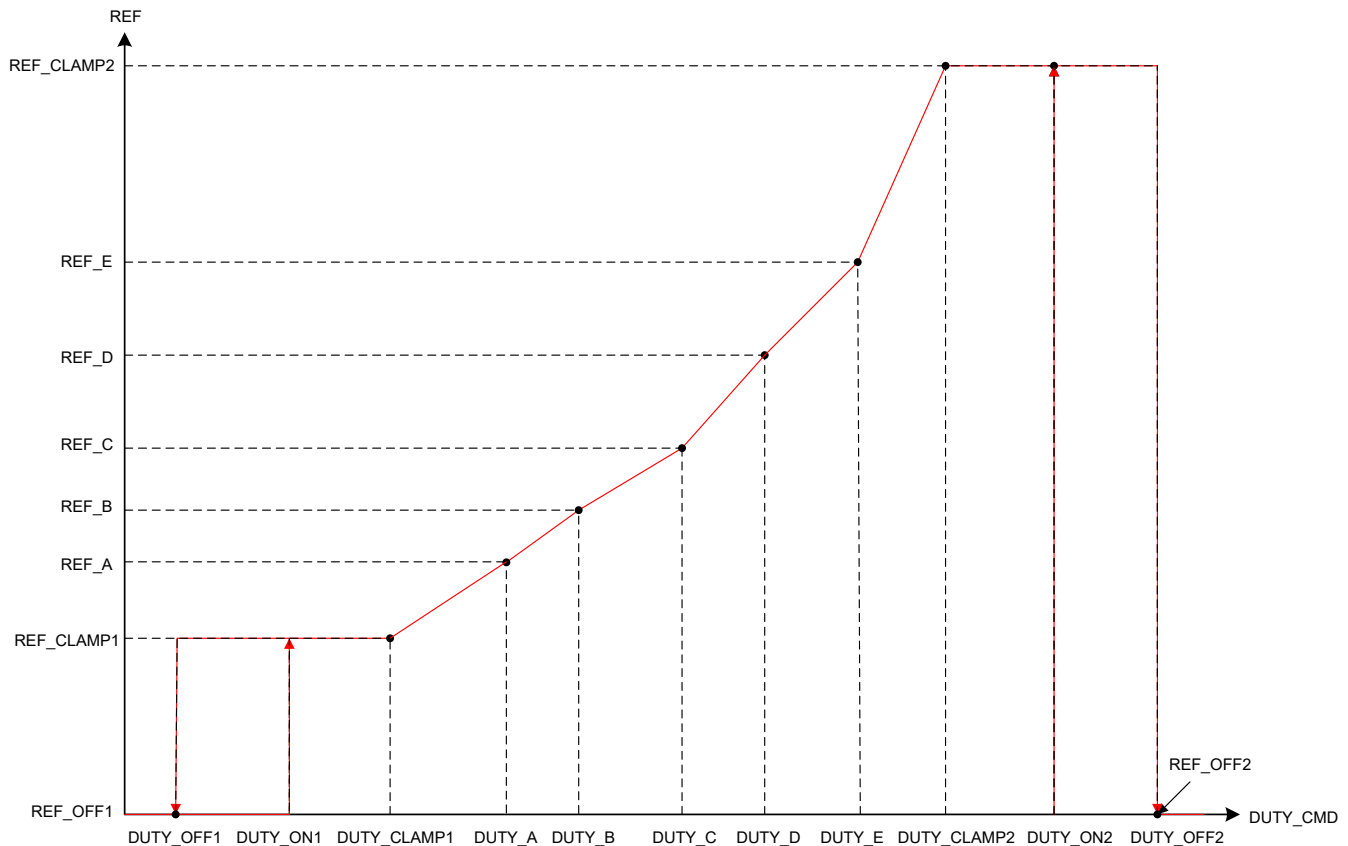

Figure 7-11. Linear Control Profiles
- DUTY_OFF1 and DUTY_ON1 configures a hysteresis around reference control input REF_CLAMP1 and REF_OFF1 as shown in Figure 7-11.
- DUTY_A configures the duty command for reference REF_A. The reference changes from REF_CLAMP1 to REF_A linearly between DUTY_CLAMP1 and DUTY_A. DUTY_A to DUTY_E has to be in the same order as shown in Figure 7-11.
- DUTY_OFF2 and DUTY_ON2 configures a hysteresis around reference control input REF_CLAMP2 and REF_OFF2 as shown in Figure 7-11.